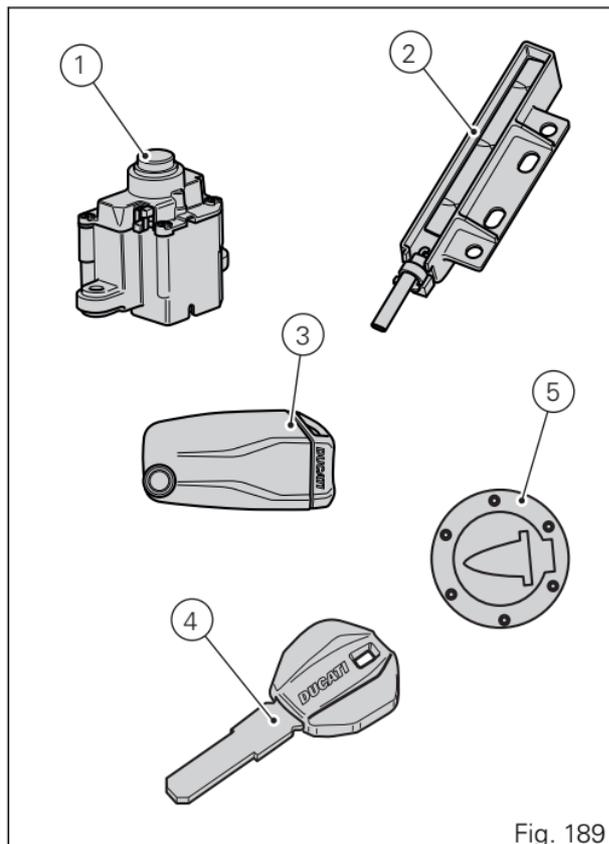

Fig. 189
The "Hands free" unit (1, Fig. 189) is located on tank front side and can be accessed by pulling up and removing protection cover (8).
Key-On can be performed by pressing button (6) on the handlebar and with the presence of the active key (3, Fig. 189).
Key-Off can be performed by pressing the button (6) on the handlebar. It can also be performed without the key (3, Fig. 189) only if motorcycle speed is equal to zero.
Key-On can be performed by pressing button (7) on the Hands free unit (1, Fig. 189) and with the presence of the active key (3, Fig. 189).
Key-Off can be performed by pressing button (7) on the Hands free lock (1, Fig. 189), also without the key (3, Fig. 189).
Key-On can be performed by pressing the grey button (6) on the handlebar and with the presence of the passive key (4, Fig. 189).
Key-Off can be performed by pressing the grey button (6) on the handlebar. It can also be performed without the key (4, Fig. 189) only if motorcycle speed is equal to zero.
Key-On can be performed by pressing button (7) on the Hands free lock and with the presence of the passive key (4, Fig. 189).
Key-Off can be performed by pressing button (7) on the Hands free lock (1, Fig. 189), also without the key (4, Fig. 189).
Key-On can be performed by pressing button (7) on the hands free lock (1, Fig. 189) without the presence of the keys (3) and (4) and entering the pin code on the instrument panel.